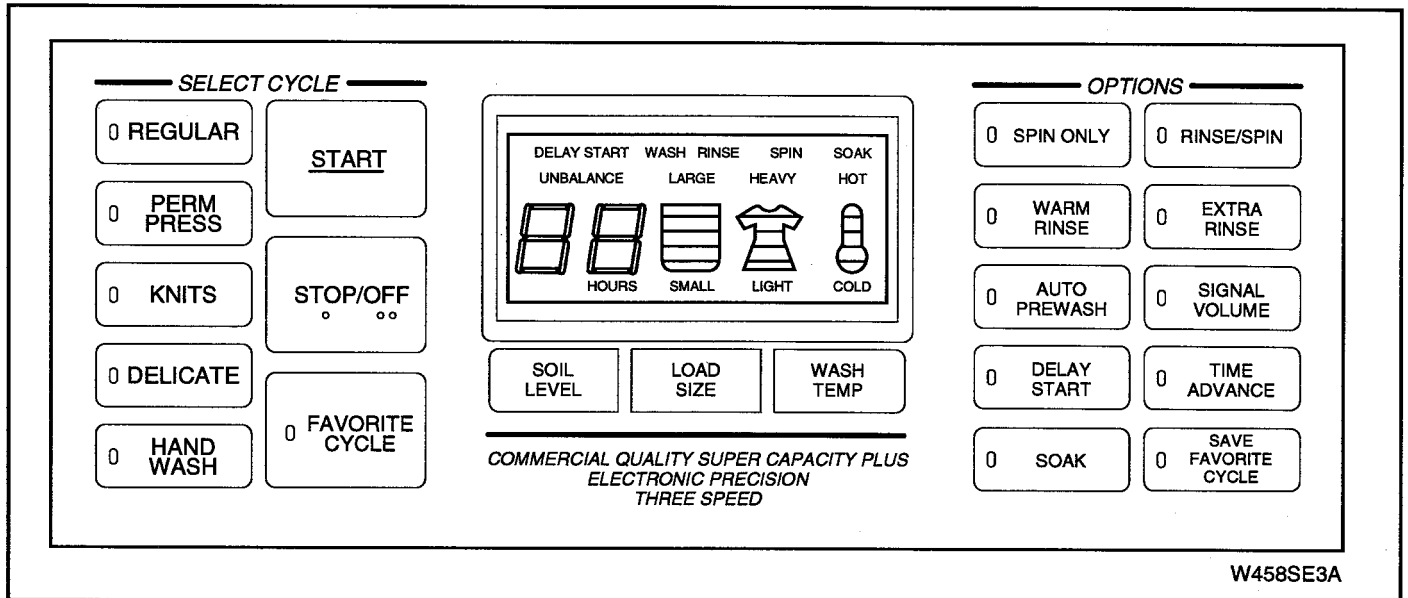

Figure 9-3
IMPORTANT: This procedure is intended to be used as an aid in diagnosing potential problems with electronic control. See Figure 9-3. Refer to SECTION III (Troubleshooting) for diagnosing problems with components other than electronic control. For terminal numbers, connections and color coding see Figure 9-4.
2. Start in idle mode, all LED's (Light Emitting Diodes) off. See Figure 9-3.
3. Press SIGNAL VOLUME pad down and hold. See Figure 9-3.
4. Now press START pad down and release all pads when sequence starts. See Figure 9-3.
1. This test routine will only light LED's (Light Emitting Diodes) pertaining to hardware model selected. The LED lights are located to the left of the SELECT CYCLE and OPTIONS pads. See Figure 9-3.